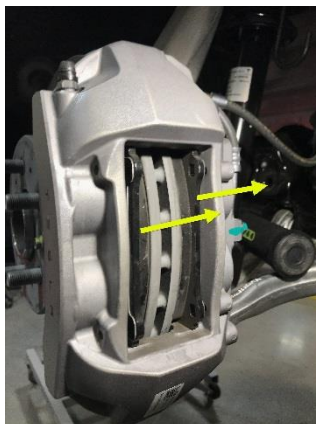

Figure 8 (Model 3 shown, other models similar)
10. Remove the brake pads from the front LH caliper (Figure 8).